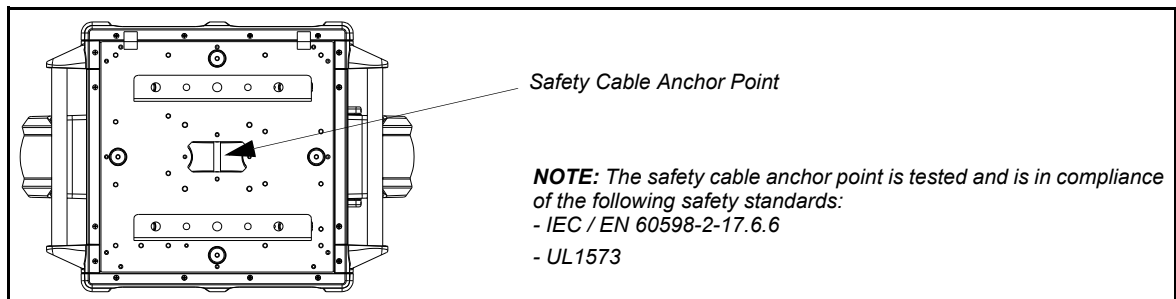

Figure 2-4: Safety Cable Installation / Luminaire Hanging
- Step 3. Attach safety cable (as required) as follows (refer to Figure 2-4 on page 22):